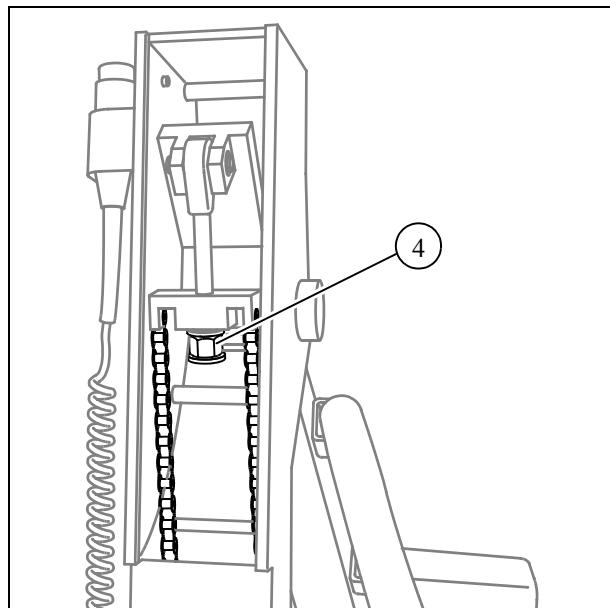

Fig. 21
- Tighten the screw using a 17 mm Allen key (4/Fig. 21). Adjust the spring tension in such a way that there is a balance when the C-arm is in a vertical position, i.e. that equal force is required to lift and lower the tube assembly.